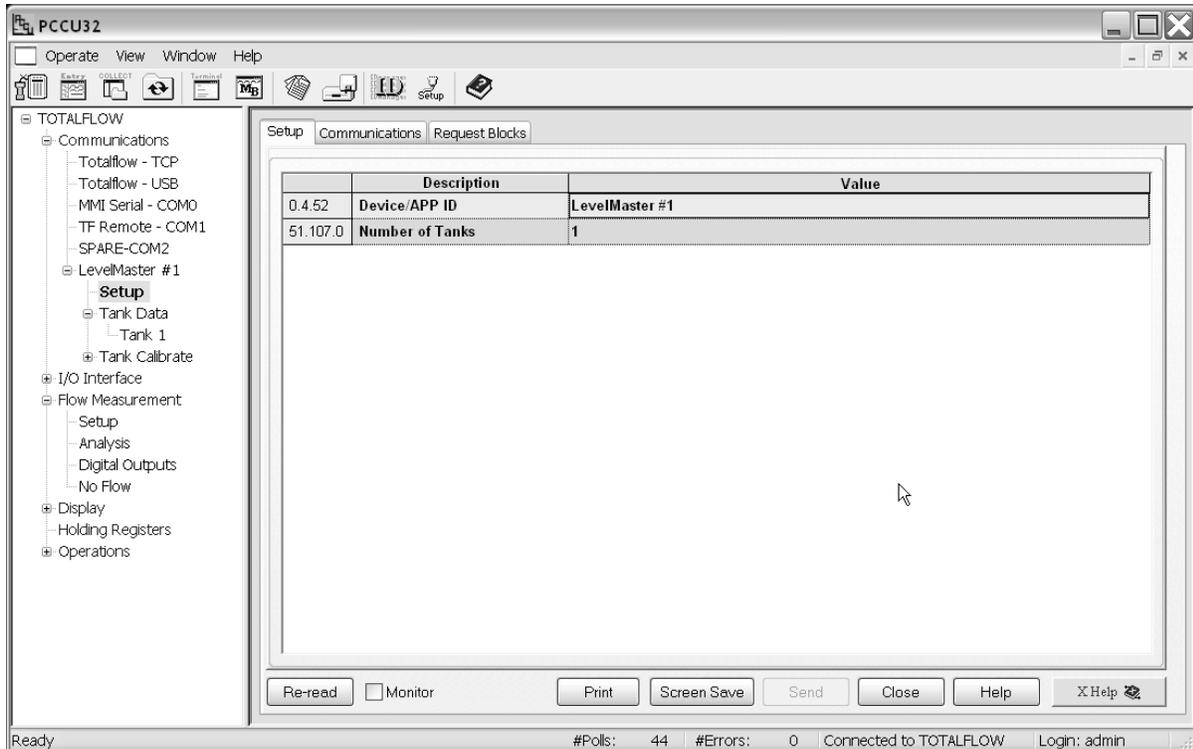

Figure 3–9 G4 LevelMaster Setup Screen
- 5) Move to the Communications tab under the LevelMaster Setup screen (see Figure 3–10). The user needs to decide which communication port that they want to assign to the LevelMaster. For the purpose of these instructions, it is assumed that the user selects Com 2. Under Value, next to the Serial Port, type **COM2**: Click the Send button, this will assign comm port 2 to the LevelMaster.